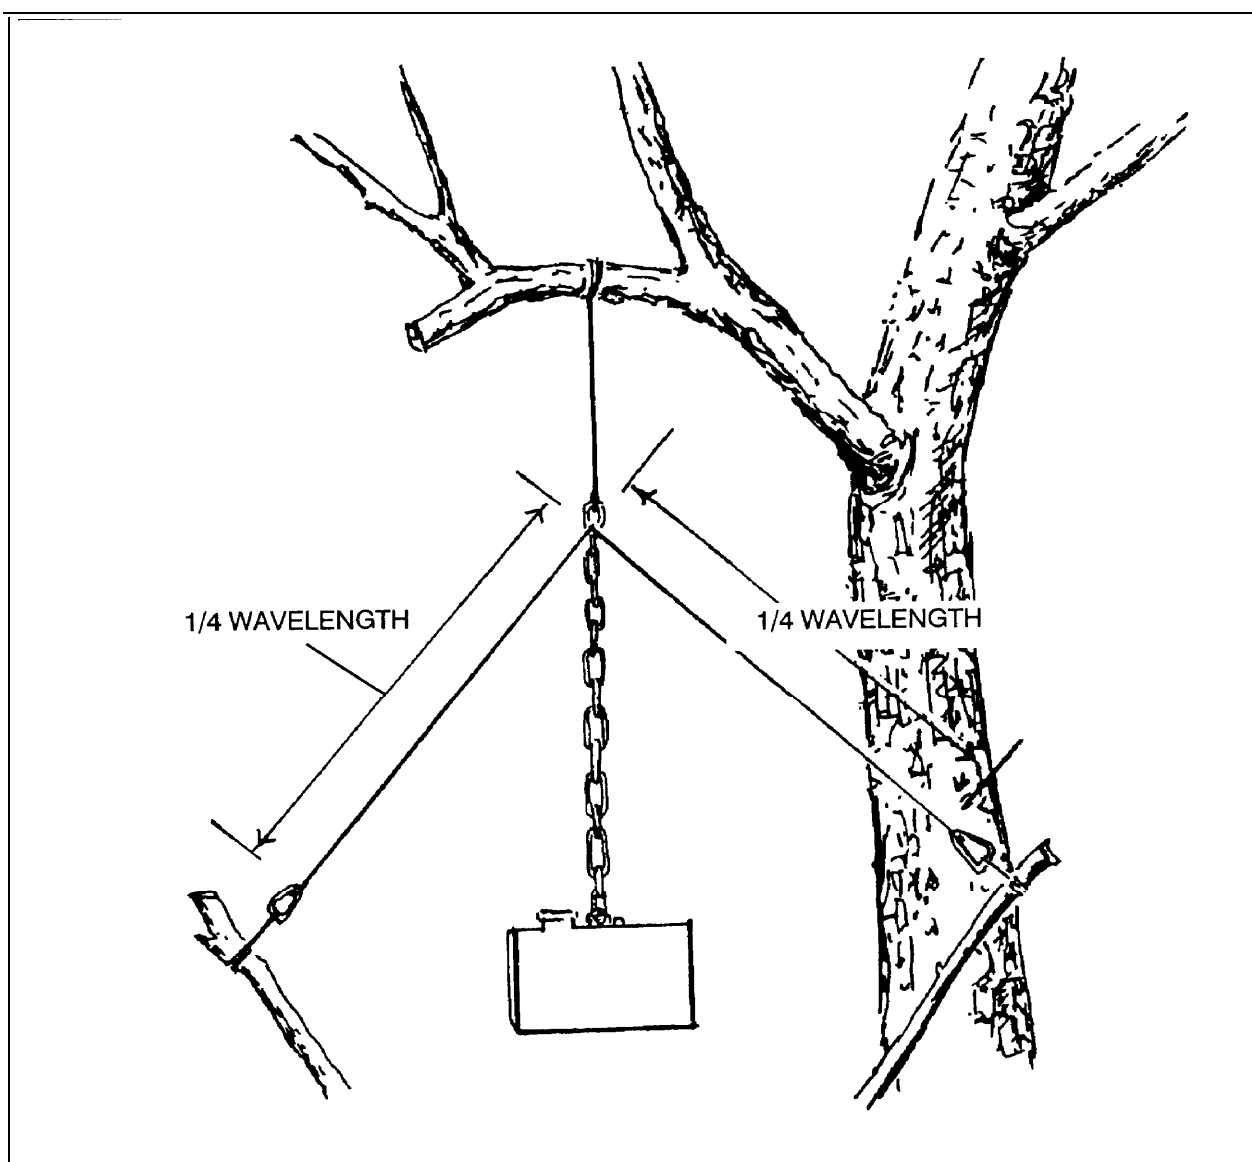

Figure D-10. Inverted Vee antenna.
g. **Inverted Vee.** The inverted Vee, or drooping dipole, is similar to a dipole but uses only a single center support. Like a dipole, it is used for a specific frequency and has a bandwidth of plus or minus 2 percent of design frequency. Because of the inclined sides, the inverted Vee antenna produces a combination of horizontal and vertical radiation; vertical off the ends and horizontal broadside to the antenna. All the construction factors for a dipole also apply for the inverted Vee. The inverted Vee has less gain than a dipole, but the use of only a single support could make this the preferred antenna in some tactical situations. (See Figure D-10).